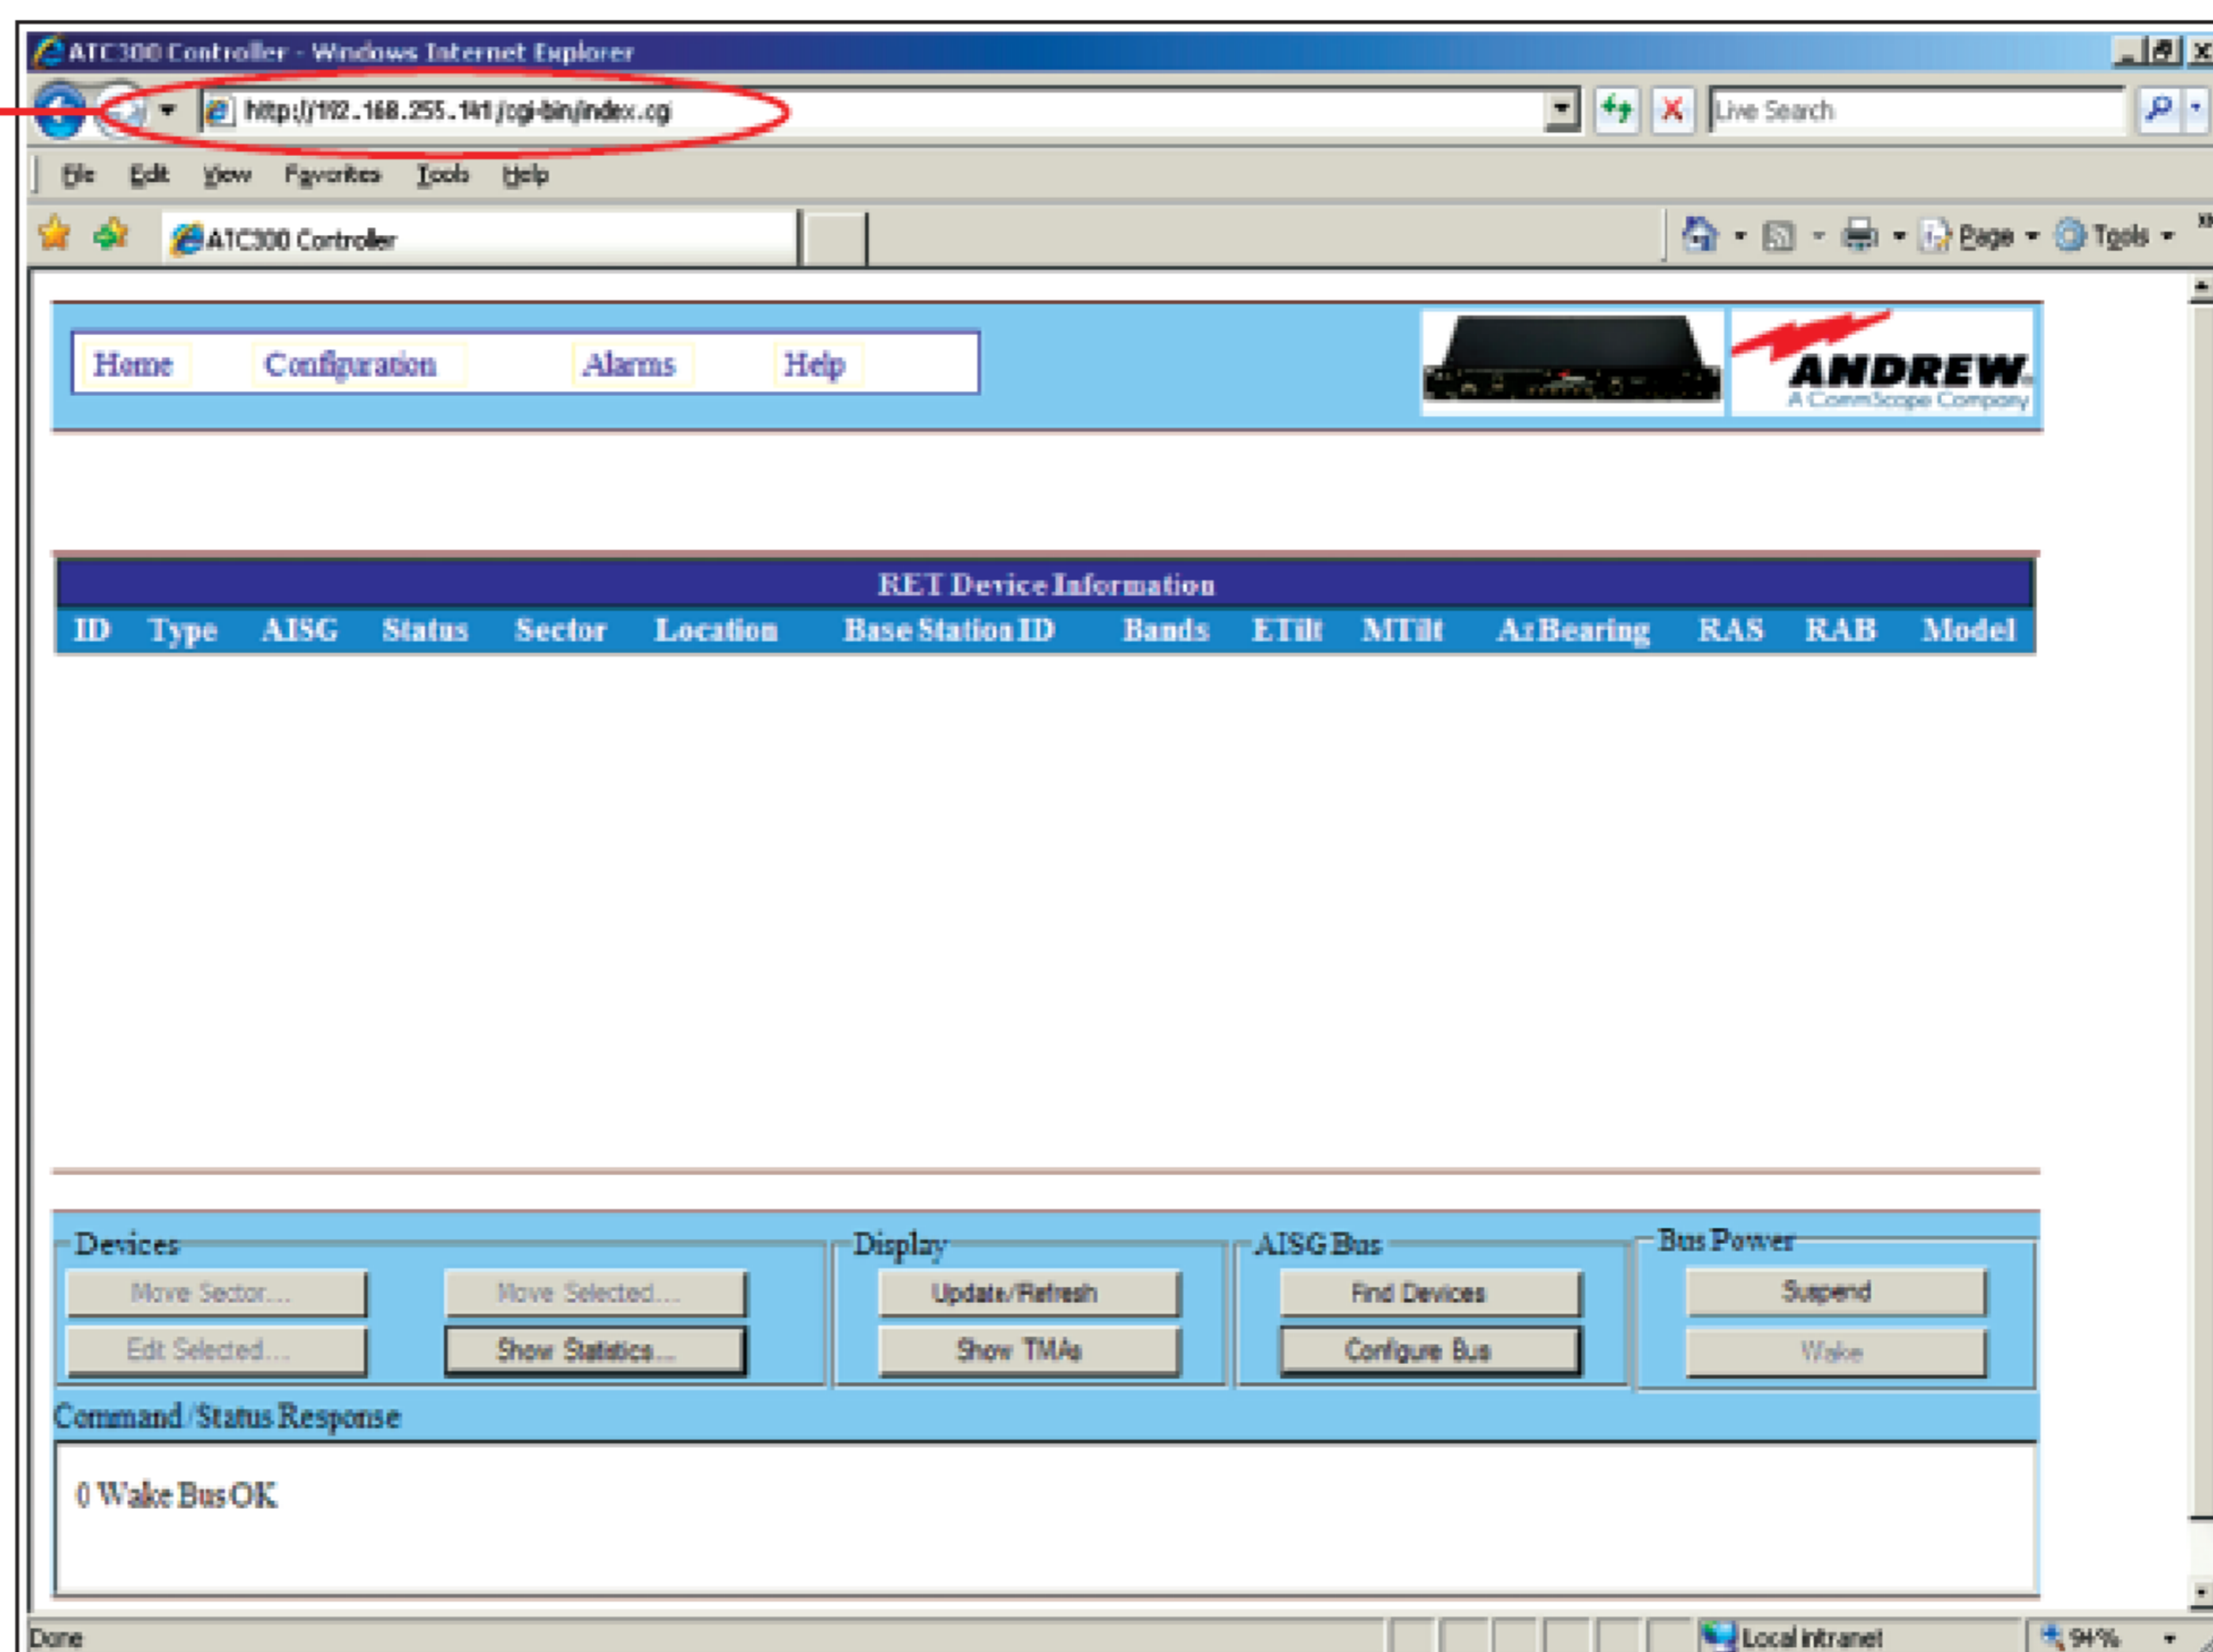

Figure 2-4. ATC300-1000/2000 Controller Main Interface Screen.
- Open an Internet browser (Netscape and Mozilla are not supported). See Figure 2-4.